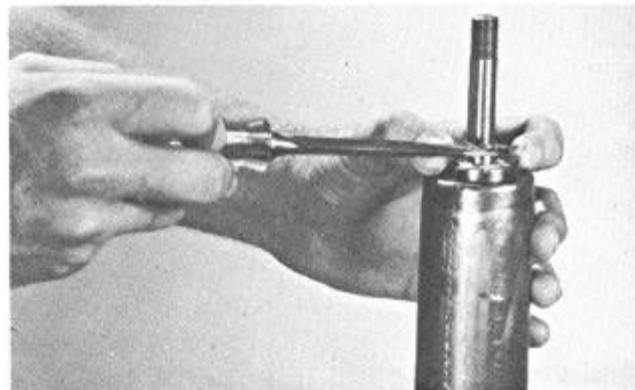

FIGURE 12
- A. Use a hook tool and remove the retainer lock ring, Figure 12.